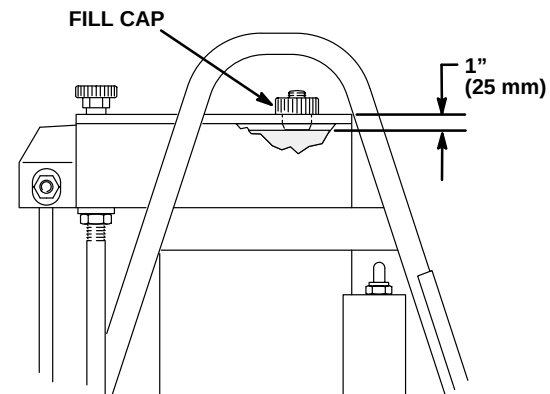

Fig 2 0269
- 6 **Check the hydraulic oil level.** See Fig 2. Unscrew the fill cap. The oil should be 1 in. (25 mm) from the top of the plate. If it is not, fill as necessary with light-weight hydraulic oil; use only Graco Hydraulic Oil, Part No. 218–797. Install the fill cap.